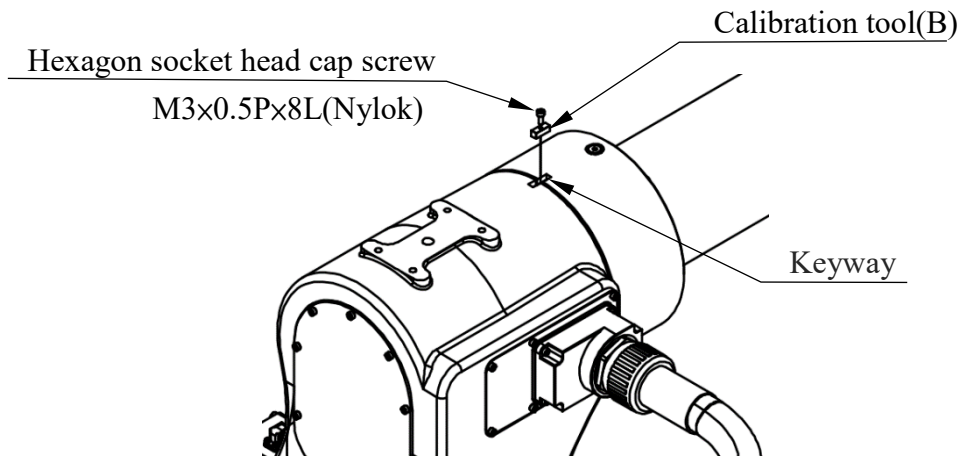

Figure 4-5 Illustration of J4-axis Zero- position setting
- J4-axis Zero-position setting (please refer to the Figure 4-5)
- Step2. Insert the calibration tool(B) to the keyway to calibrate Zero-position. (The hexagon socket screw can be secured to the calibration tool(B) in advance.)
- Step3. Finish calibration and remove the calibration tool(B) by using the hexagon socket screw.